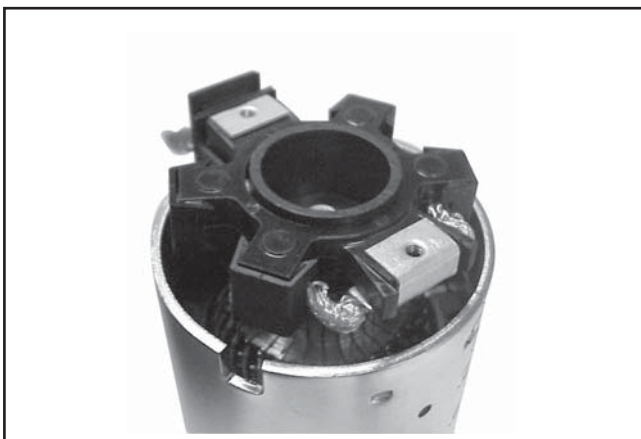

Figure 8-60. Installing Brush Holder Assembly With Supplied Tube.
- a. Hold the starter assembly vertically on the end housing, and carefully position the assembled brush holder assembly, with the supplied protective tube, against the end of the commutator/ armature. The mounting screw holes in the metal clips must be “up/ out.” Slide the brush holder assembly down into place around the commutator, and install the positive brush lead grommet in the cutout of the frame. See Figure 8-60. Save the protective tube, it may be used for future servicing.